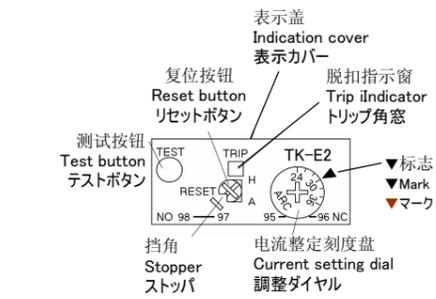

Fig.4
- 在刻度范围内转动电流整定刻度盘，与▼标志对齐的电流值即为电动机全负载电流。(Fig.4)
而且，如果按测试按钮，b触点(95—96)会分断，放开的话就再次闭合。(Fig.4)
- Turn the current setting dial within the scale so that the full load current of the motor is at the ▼ mark (Fig. 4). Do not use beyond the scale, or the expected performance cannot be obtained.
- By pulling the test button, checking of control circuit wiring can be done. If it is depressed only the NC contact (95-96) is opened. If it is released, the NC contact is closed again. (Fig. 4)
- When the thermal overload relay operates, the trip indicator displays a yellow sign. If the thermal overload relay is reset, indication disappears from the indicator. (Even if the thermal overload relay operates, the yellow sign dose not show in the trip indicator at automatic reset mode.) (Fig.4)
- If the thermal overload relay operates, first remove the cause of failure such as overload, and then lightly press the reset button to reset it. (In this case, the thermal overload relay cannot reset, if it is not cooled sufficiently.) (Fig.4)
- 調整ダイヤルを回して目盛りの範囲内で、モータの全負荷電流を▼マークに合わせてください。(Fig. 4)
また、テストボタンを押すとb接点(95—96)だけが離れ、放すとb接点が再び閉じます。(Fig. 4)